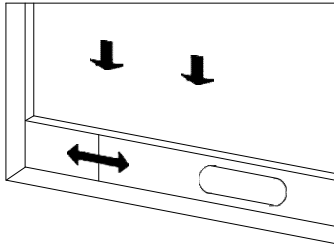

Figure 2
- 1) Half open the window, and mount the window sealing plate assembly to the window (as shown in Fig.2 and Fig.3). Components can be placed in horizontal and vertical direction.